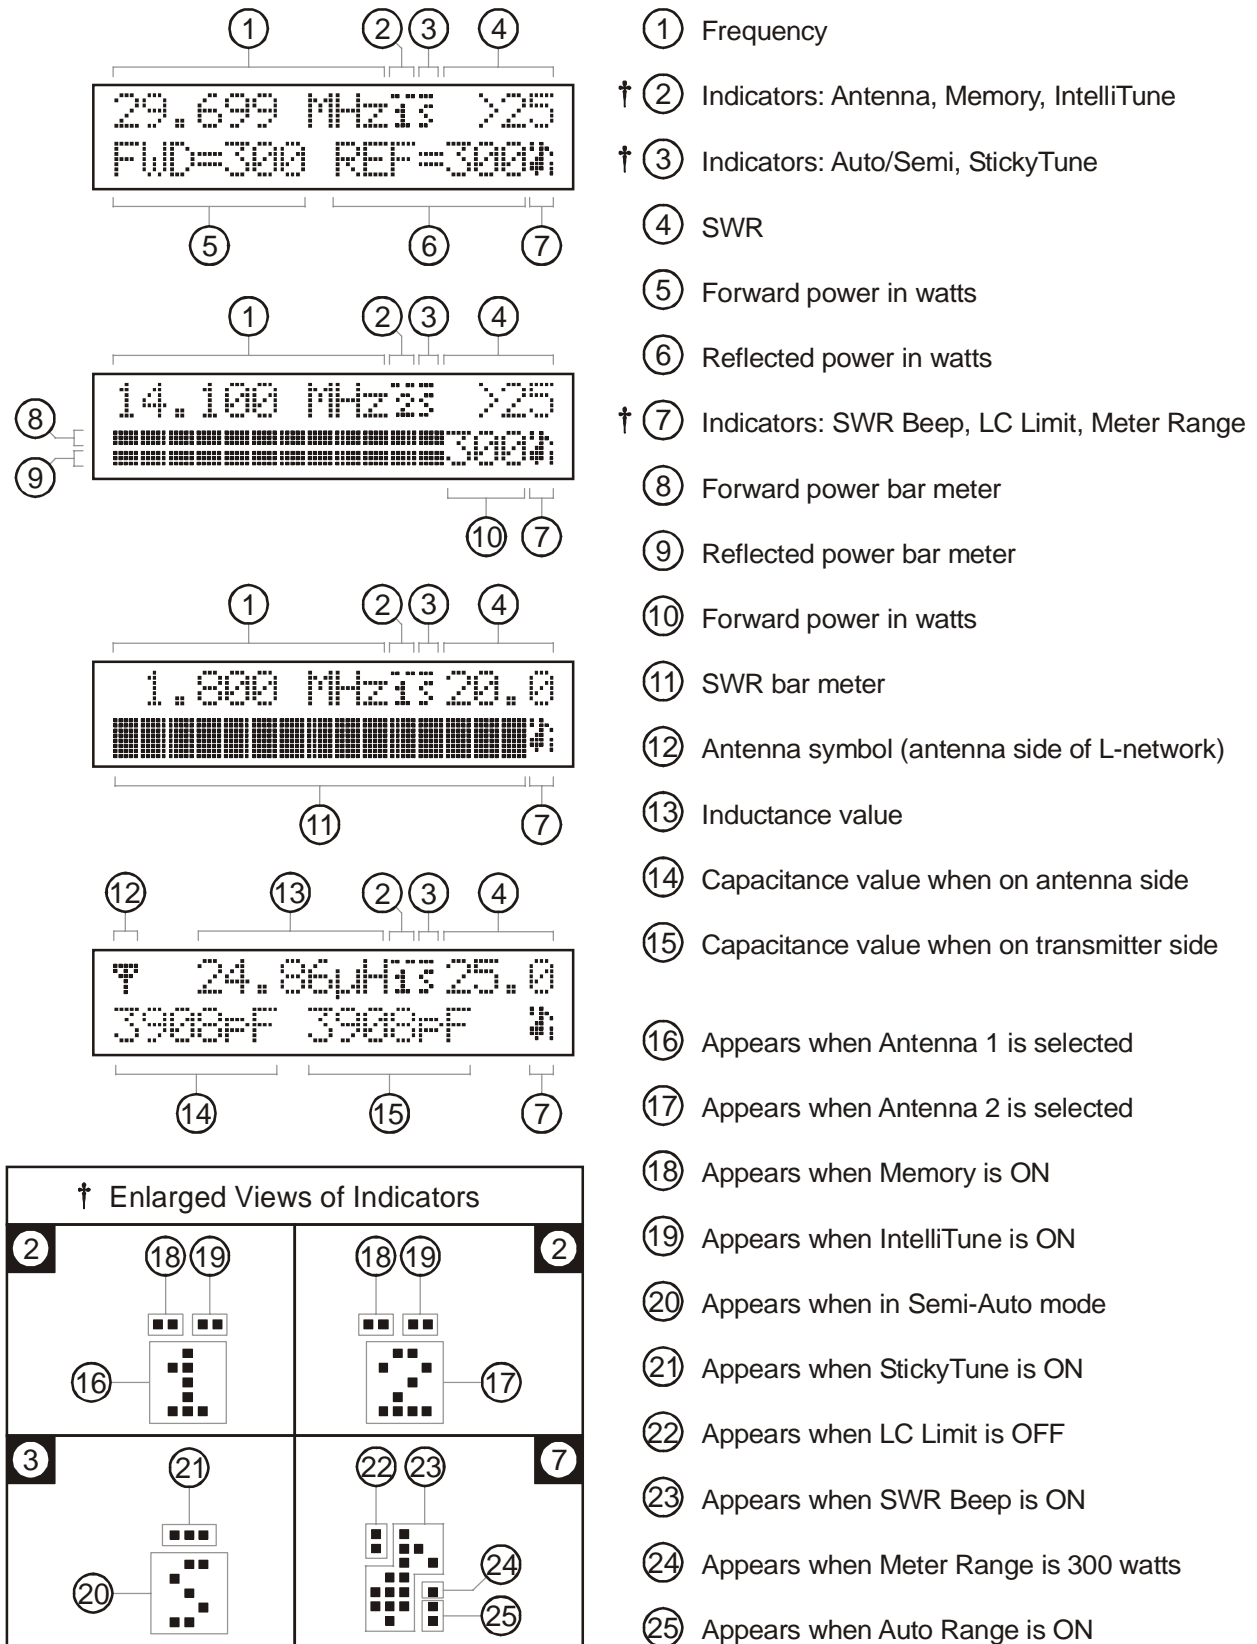

Figure 10. Main Mode Menus Display.
- **LCD Display:** A 2-line by 16-character alphanumeric display. It displays the tuner’s various menus and status. The display contrast can be adjusted by the [LCD] control on the front panel. Below the display are the SWR and power bar meter scales. Refer to Figure 10 for descriptions of the various displayed information.
To toggle between the high and low meter ranges, press the [TUNE] and [L-DN] buttons simultaneously. The forward needle will read “300” for high range and “30” for low range until the buttons are released. On the main LCD screen, in the high range a small dot appears in the lower right corner of the screen. No dot appears in the low range. One beep indicates high range is selected; two beeps indicate low range is selected. Refer to Figure 10 for the on-screen Meter Range indicator.
The meter can be set to auto range. Auto range automatically sets the meter scales according to the input RF power to the tuner. Forward power greater than 30 watts or reflected power greater than six watts automatically sets the meter to the high power range. Forward power less than 25 watts and reflected power less than four watts automatically set the meter to the low power range. To toggle auto range on and off, press the [TUNE] and [C-DN] buttons simultaneously. The reflected needle will read “60” for auto range ON and “5” for auto range OFF. When auto range is on, a two-dot vertical segment appears in the lower right corner of the screen. One beep indicates auto range on and two beeps indicate off. Refer to Figure 10 for the on-screen Auto Range indicator.
Various tuner indicators are shown on the main menus to indicate tuner status. Refer to Figure 10 for locations of these indicators.
Allows you to select the meter scale range. In the 30 watts (low) range, the forward full scale is 30 watts and the reflected full scale is 6 watts (divide the meter reading by 10). In the 300 watts (high) range, the forward full scale is 300 watts and the reflected full scale is 60 watts. Auto range automatically sets the meter scales according to the input RF power to the tuner. Forward power greater than 30 watts or reflected power greater than six watts automatically sets the meter to the high power range. Forward power less than 25 watts and reflected power less than four watts automatically set the meter to the low power range. Refer to Figure 10 for the on-screen Meter Range indicators. Default is 300 watts range.
The memory resolution for non-amateur frequency bands between 160 and 10 meters is approximately one percent of the lower frequency of that band. There are over a thousand memory locations for each antenna. Tuner settings are stored in memory separately for Antenna 1 and Antenna 2 (settings for balanced line or single-wire antennas are stored as Antenna 1). Refer to Figure 10 for the on-screen Memory indicator. Default is ON.
Turns the IntelliTune™ tuning algorithm on and off. When the tuner cannot find an appropriate setting in its memory, it begins its calculation function. It measures the complex impedance of the antenna (load) at that frequency, then it calculates the L/C components needed for a match. Then it fine-tunes the component values. If for any reason the tuner cannot calculate the load impedance, it proceeds to yet another method of calculation. If for any reason, this function can be turned off. Refer to Figure 10 for the on-screen IntelliTune™ indicator. Default is ON.
Turns the aural SWR meter on and off. The aural meter is a series of one to five beeps where one beep indicates SWR of 1.5 or less, two beeps indicate SWR of 1.6 to 2.0, three beeps indicate SWR of 2.1 to 2.5, four beeps indicate SWR of 2.6 to 3.0, and five beeps indicate SWR above 3.0. This functions independent of the acknowledgement beep setting. When ON, a musical note ♪ appears on the lower right corner of the main menus (refer to Figure 10). Default is OFF.
increased only to these limits. When a selected capacitance or inductance is higher than its allowed limit, and the frequency is changed, that selection is automatically reduced to the value of its limit. These limits are used to prevent matching of extreme load impedance outside the tuner's specification, which may result in excess voltage and/or current across the tuner's components. This setting is not stored in non-volatile memory and reverts back to the default when the tuner power is turned off. Refer to Figure 10 for the on-screen LC Limit indicator. Default is ON.